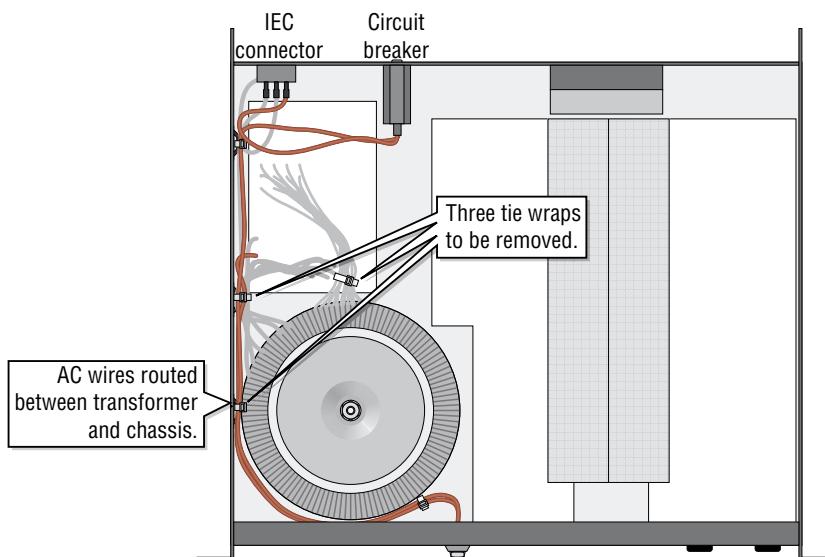

Figure 1. The amplifier before modification.
2. Cut and remove the three tie wraps shown in Figure 1. Be careful not to cut into the wires or their insulation.